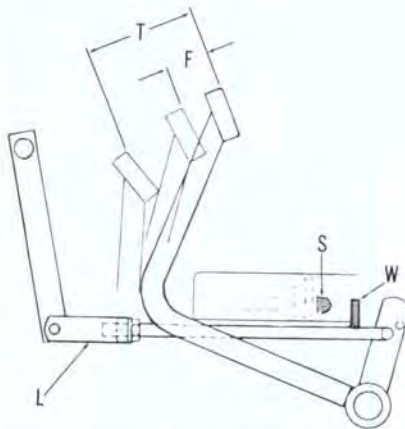
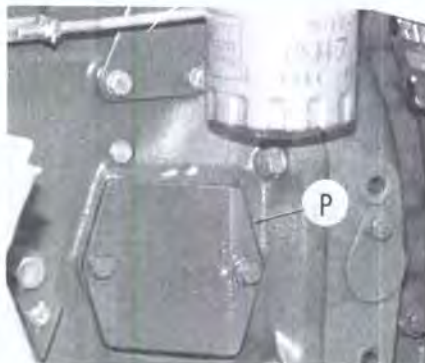

Fig. 82—Schematic view of clutch adjustment on Models L175, L225 and L225DT.
Fig. 83—Access plate (P) can be removed for individual clutch finger adjustment.
89. Clutch pedal free play should be 20-30 mm ($\frac{3}{4}$ - $1\frac{3}{16}$ inches) when measured at pedal pad as shown at (F—Fig. 82). If a small amount of adjustment is required, correction may be made by disconnecting pedal link (L) and shortening link until free play is correct. The manufacturer recommends removing access plate (P—Fig. 83) and adjusting clutch release levers individually until clearance (C—Fig. 84) between release bearing and lever is 2.5-3.0 mm (0.098-0.118 inch). Adjustment is made by removing cotter pin and turning adjusting nut (N) at outer end of lever on
Total pedal travel (T—Fig. 82) should be 135 mm (5-5/16 inches) and weldment (W) should contact and apply starter safety switch (S) when pedal is fully depressed.